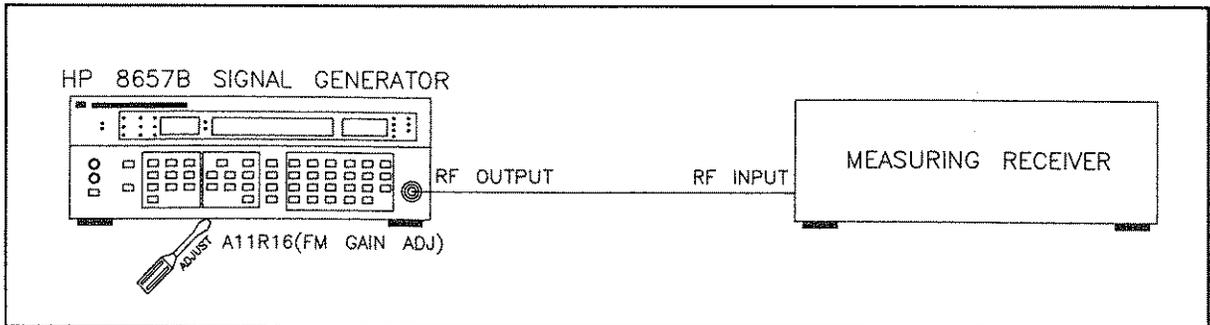

Figure 5-21. FM Deviation Adjustment Setup
3. Connect the HP 8657B RF OUTPUT to the frequency counter CHANNEL A INPUT and the counter time base OUT to the HP 8657B Time Base INPUT as shown in Figure 5-21.